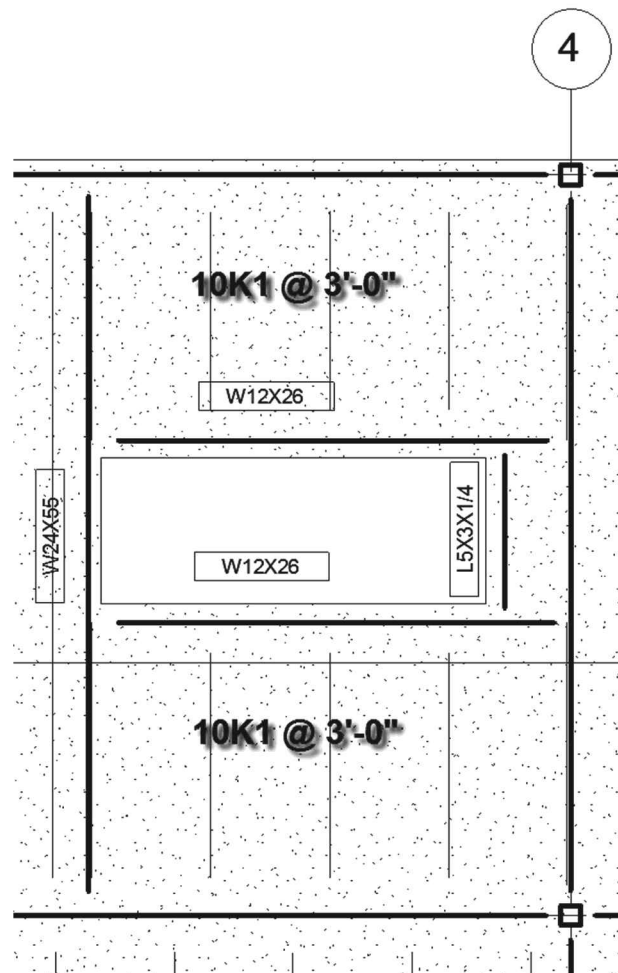

FIGURE 8-4.18 Beam Systems adjacent to the floor opening
47. Using techniques previously discussed, i.e., loading content and creating beam systems via sketching, place the remaining joists shown in Figure 8-4.18.